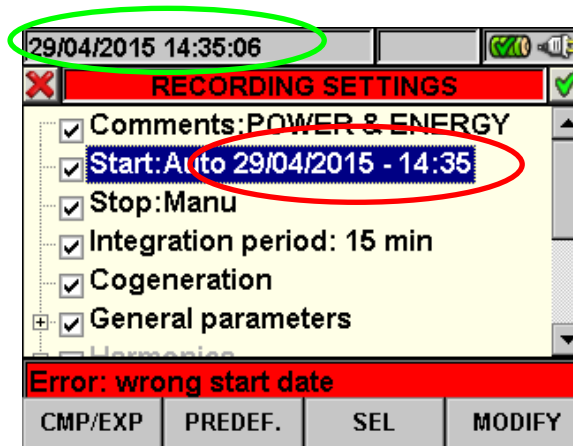

Fig. 110: Wrong Date/Hour
4. Press **SAVE** or **ENTER** keys (or smart icon ) to saving the settings. The screen of Fig. 110